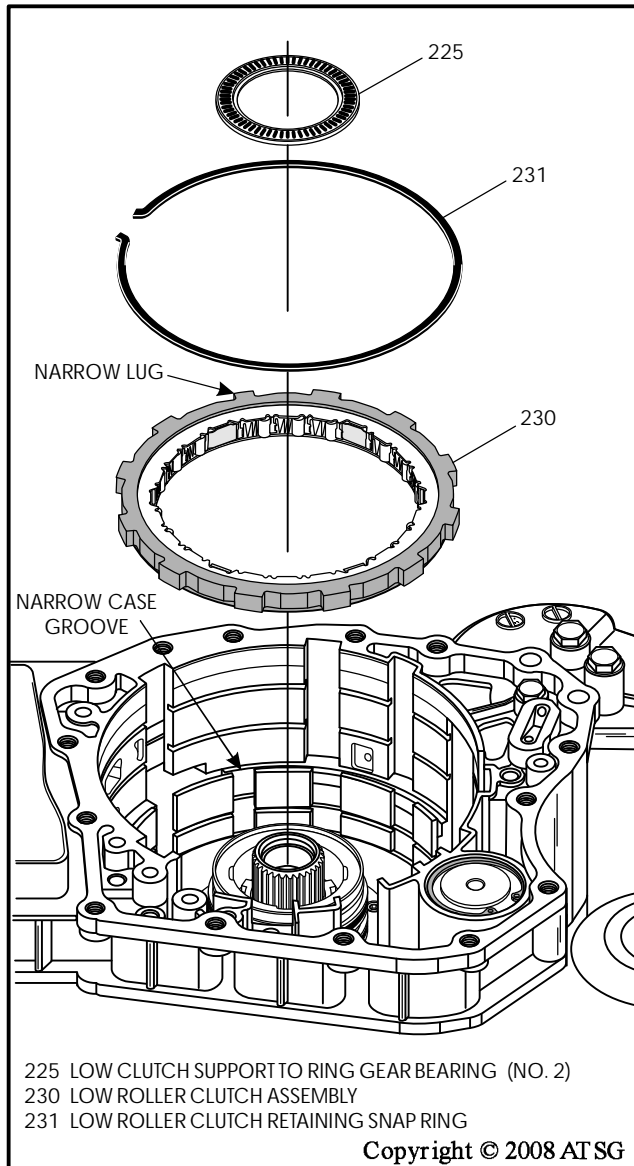

Figure 186
1. Install the low roller clutch assembly into the case, as shown in Figure 186, with the narrow lug to the narrow case groove.
2. Install the retaining snap ring into the case, as shown in Figure 186.
3. Install the number 2 thrust bearing on support, as shown in Figure 186, and retain with small amount of Trans-Jel®.